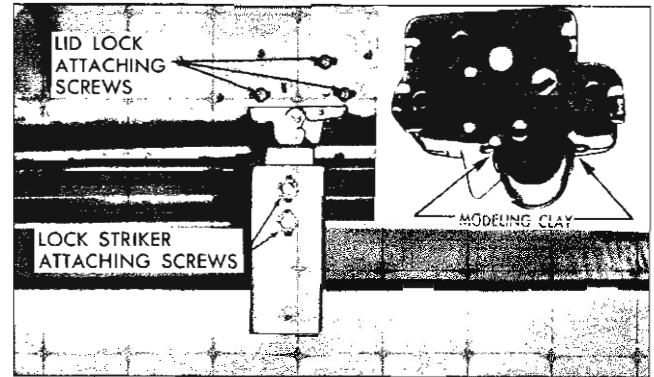

Fig. 84—Rear Compartment Lid Lock and Striker
2. Remove striker attaching screws (fig. 84) and remove striker.
- a. Insert a small quantity of modeling clay on frame of lock at both sides of the lock bolt (fig. 84). Close lid with moderate force.